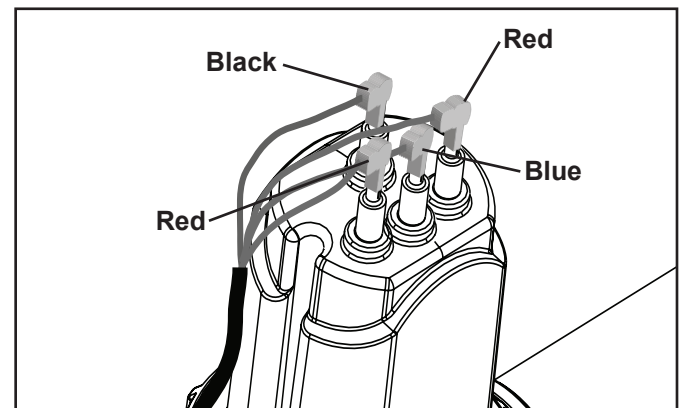

Figure 9. Connecting Cell Leads
7. Securely connect the cell leads to the like colored terminals (see Figure 9).